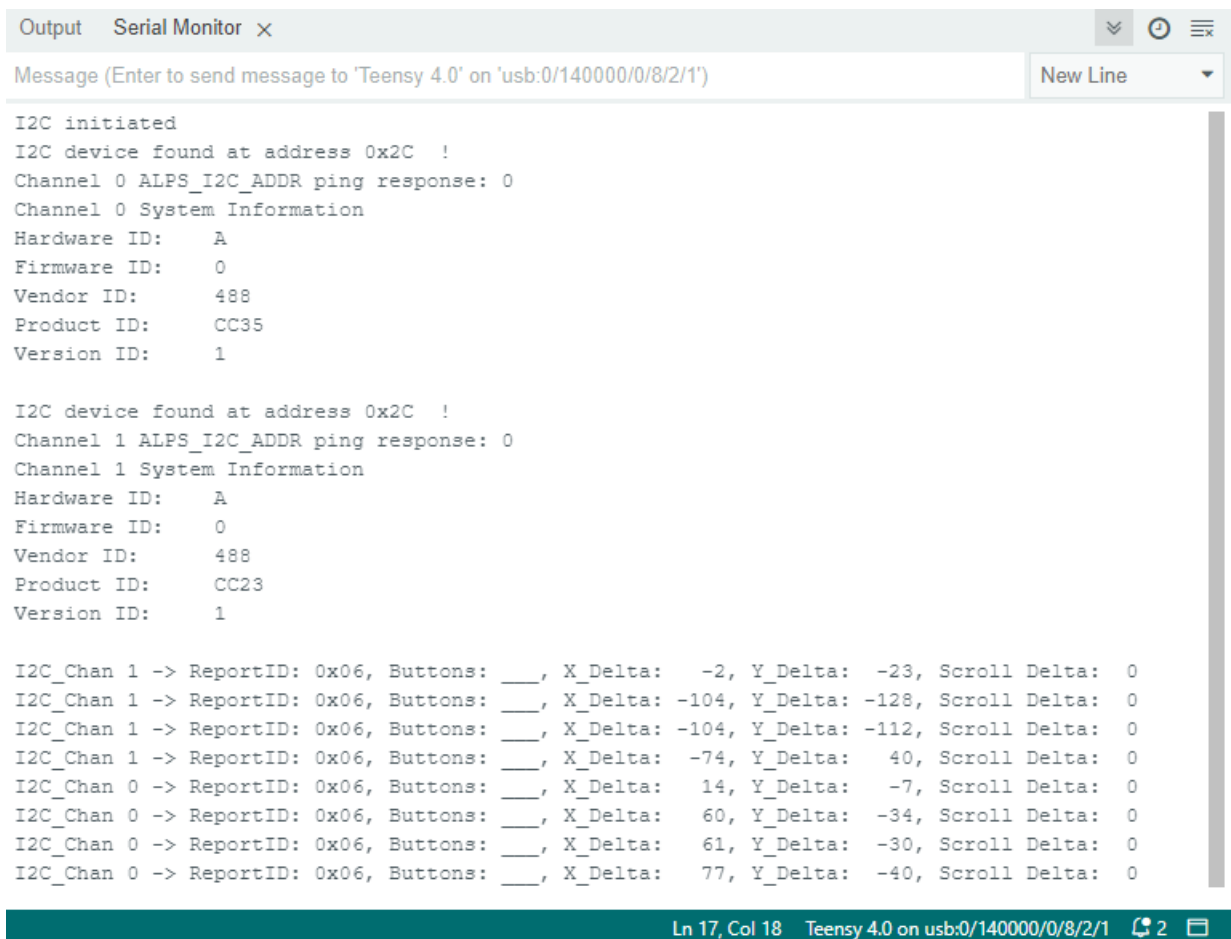

Figure 11: Data packets and other information output in the Serial Monitor.
8. This will open the serial monitor window. In the example sketch, data packets and other information are displayed in this window (See Figure 11). You may want to select “Autoscroll” so that the most current information is always displayed in the window.